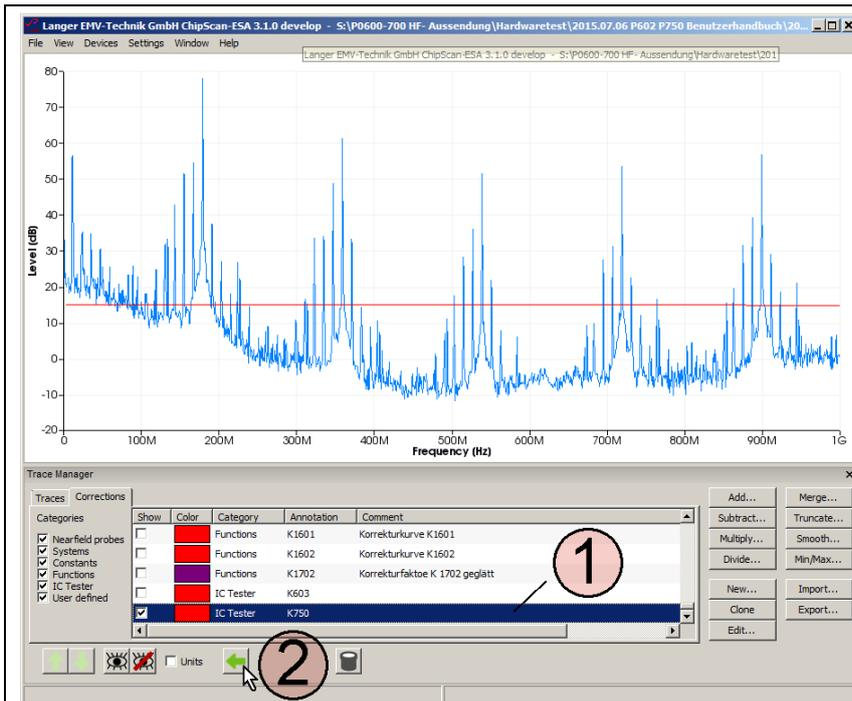

Figure 46: Correction after the measurement; copying K750 from the "Corrections" list to the "Traces" list
You can find the correction curve K750 in the "Corrections" list of the "Trace Manager". Click the "Select" button (mouse cursor ① **Figure 46**) under "Correction" in the "Spectrum Analyzer Manager" to select the respective correction curve.